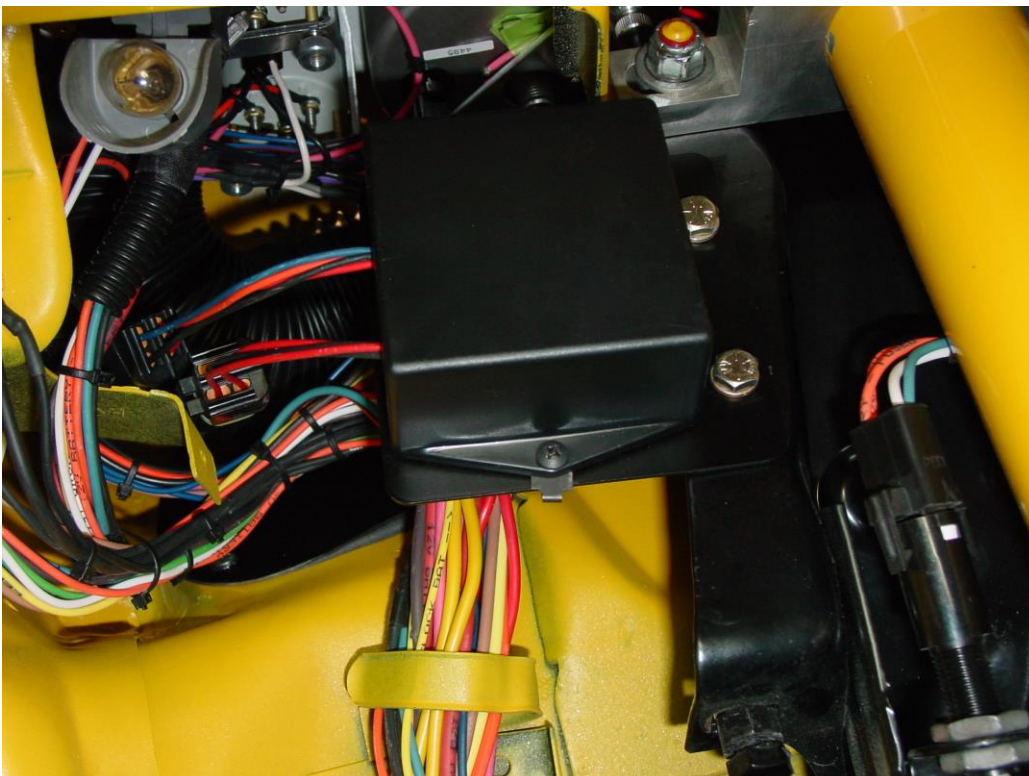

Figure 3 - Module Mounted in Place
2. Using the marks from the previous step, drill two 5/16" diameter holes in the support bracket. Slide the two included U-nuts over the drilled holes. Attach the module mounting plate to the support bracket using the two black oxide 1/4" diameter bolts and washers. The finished, mounted module assembly is shown in Figure 3.